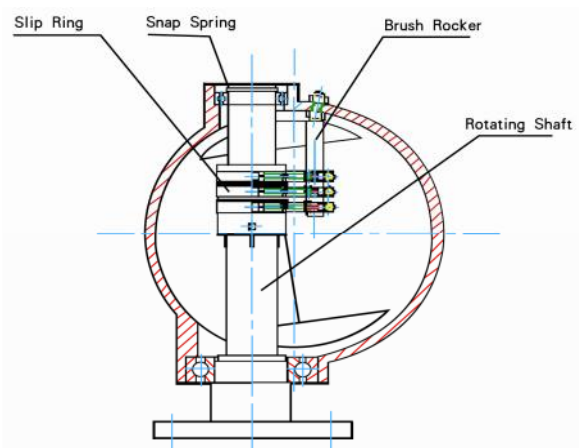

Fig 15 Installation for Slip Ring
- d. After that, tear down the slip ring location screw, change the slip ring. Electric brush slip ring installation as shown in Figure 15: